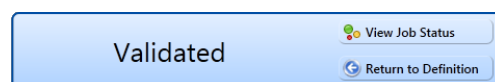

Figure 10-67. Validated Message
- 12 To validate the definition, click the **Prevalidate** button. When the validation process completes and the following message displays (Figure 10-67), click **View Job Status** to open the *Job Status* window or **Return to Definition** to open the *Definitions* window.